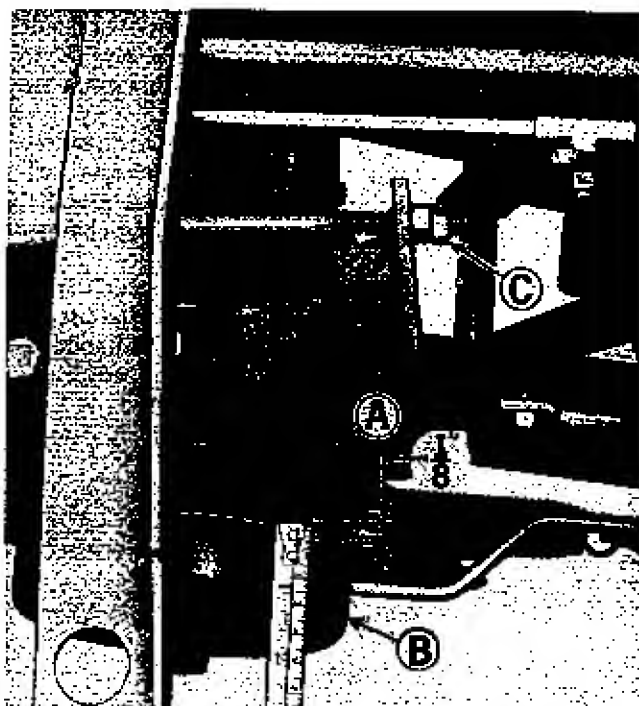

Figure 15. Power take off clutch.
See figure 15. The power take off clutch is properly adjusted when pulley (A) moves 1/8" when the power take off control lever is engaged and disengaged. If adjustment is required, proceed as follows: